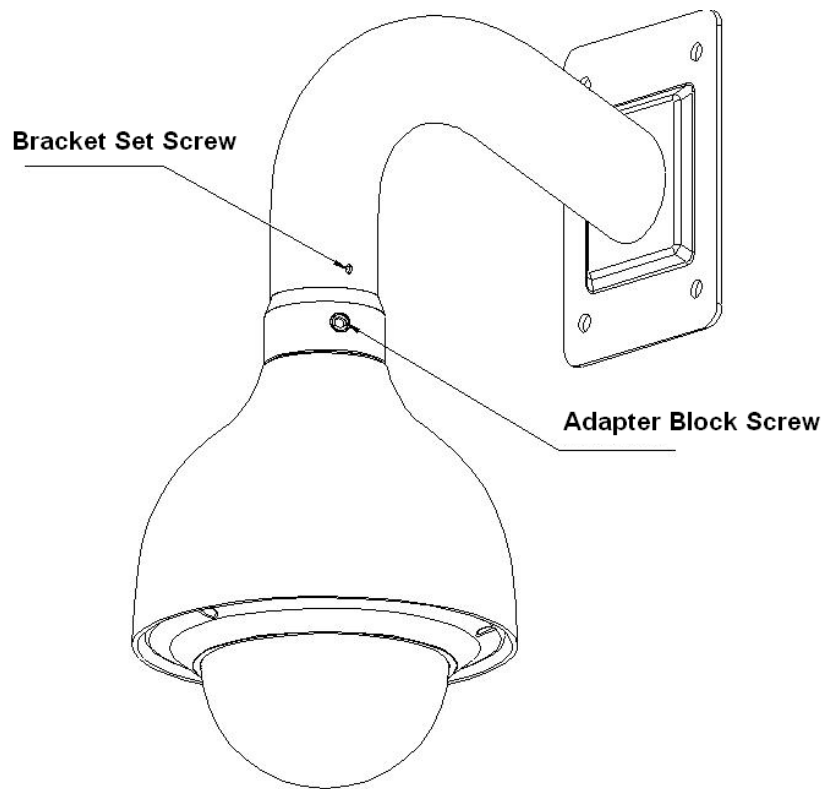

Figure 2-2
- 2) In Figure 2-2, connect the adapter block to the internal thread of the wall mount bracket, until it reaches the end and then fix the set screw. Pull the intelligent speed dome composite cable through the adapter block and pull it out of the other end of the wall mount bracket. Line up the hook at the top of the external enclosure to the inside hole of the adapter block and then push it to the end, and then secure the three screws of the adapter block firmly. **Please note this step is very important. Please make sure the screws are firm, to reduce the risk of the camera falling**